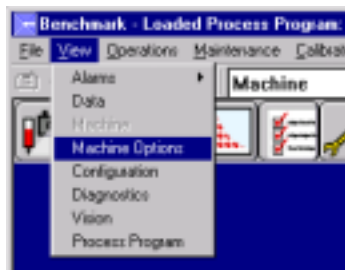

Figure 1-2
1. Select **V**iew from the menu bar. A drop down list appears, see Figure 1-2.